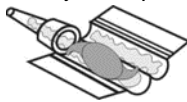

Fig.03
- After the lens is well placed in the cartridge, ensure that it is correctly centered (Pl. See Fig.03)